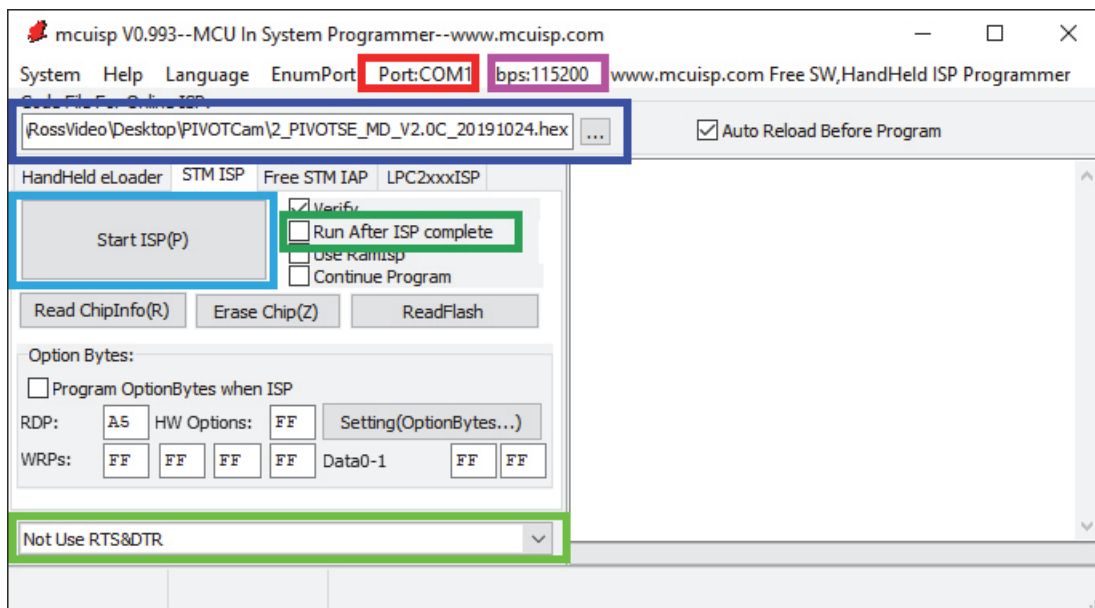

Figure 8 - MCU ISP application, with colored boxes showing controls that are mentioned in the steps of this procedure
Tip: In this example we are using **COM1**, (outlined in red in Figure 8), but you need to set it according to your computer.
7. Set the **Baud rate** to **115200** (outlined in purple in Figure 8).
8. Browse to find and select the **Motor Driver** firmware file (see box outlined in dark blue in Figure 8).
9. Clear the **Run after ISP complete** check box (outlined in dark green in Figure 8).
10. In the list at the bottom of the MCU ISP tool, select **Not Use RTS&DTR**. (outlined in light green in Figure 8).
11. Power **ON** the camera and then in the **MCU ISP** application, click the **Start ISP** button (outlined in light blue in Figure 8).